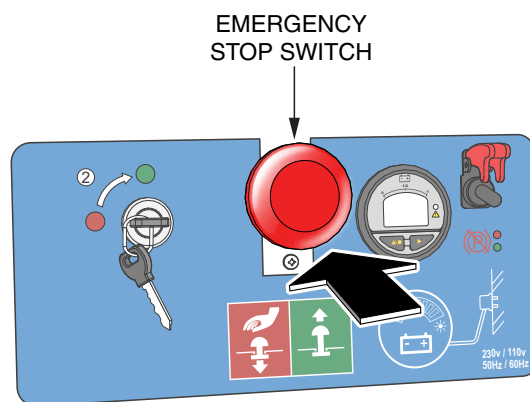

Figure 16. Emergency Stop Switch (Push)
1. Push the **EMERGENCY STOP** switch (Figure 16).